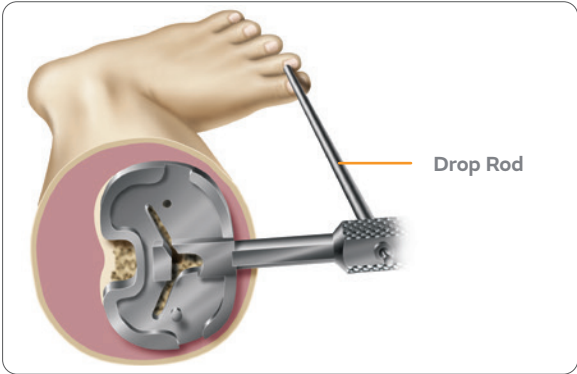

Figure 41
3. Place a trial insert into the stemless tibial trial tray and perform a trial range of motion to allow the baseplate to center on the femoral trial. (As a secondary check, the surgeon may pass the alignment rod through the quick-connect handle to assess alignment) (**Figure 41**). Pin the lateral side of the trial.